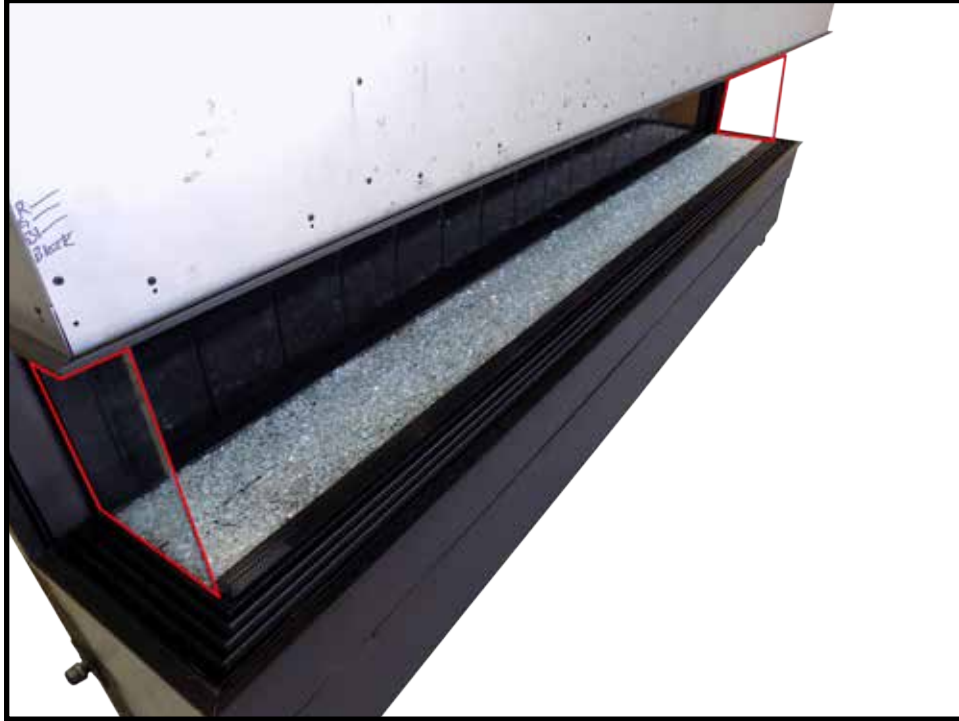

Figure 43: Install inside left and right panes first.
1. Using the supplied glass suction handles, install the two inside end plates as shown in Figure 43. Once installed, push the plates toward the rear wall so that they are not contacted by the inside front plate when the inside front plate is installed (Figure 44).